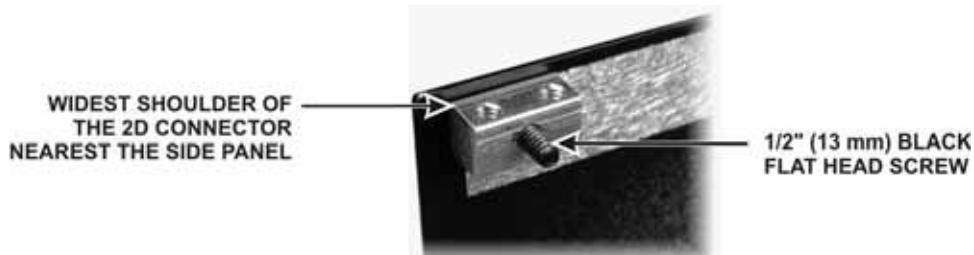

Figure 22. Mounting 2D fastener for KANT3 or KAT3 Standoff.
- At the upper rear corner of the side panel you just identified in the previous step, mount a 2D fastener as shown in Figure 22, using a black 4-40 1/2" (13 mm) flat head screw. Remember that flat head screws are measured from the flat top to the end of the threads. Note that the screw extends some distance through the 2D fastener.